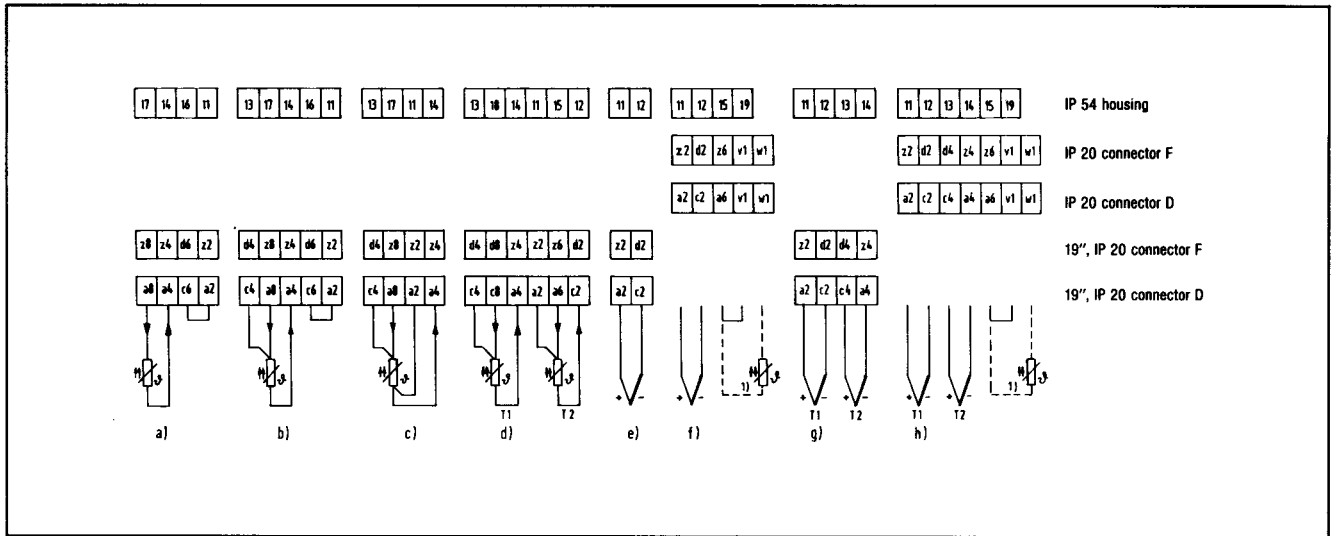

Fig. 8.1 Connection diagram
1.5 Connecting (see Figs. 8.1 and 8.2)